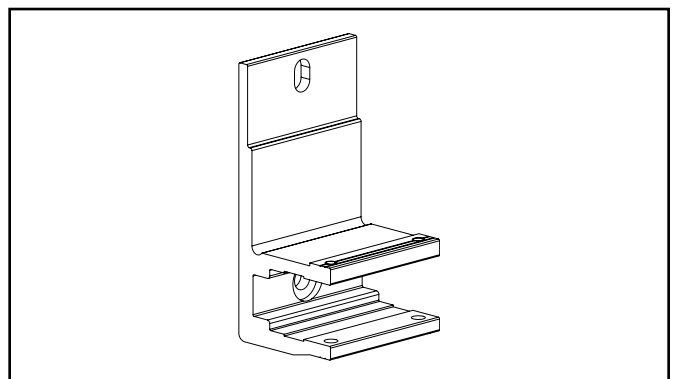

fig. 6 : The fastening profile
- The number of supports supplied is always 3 (per awning). (see fig. 6)